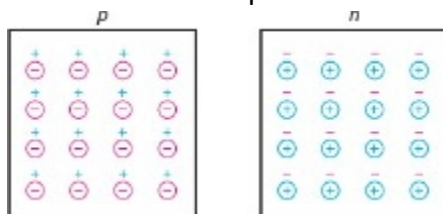

Figure-2 Two Types of Semiconductor
- For this reason, we can visualize a piece of p-type semiconductor as shown on the left side of Figure-2. Each circled minus sign is the trivalent atom, and each plus sign is the hole in its valence orbit.
- Similarly, we can visualize the pentavalent atoms and free electrons of an n-type semiconductor as shown on the right side of Figure-2. Each circled plus sign represents a pentavalent atom, and each minus sign is the free electron it contributes to the semiconductor.